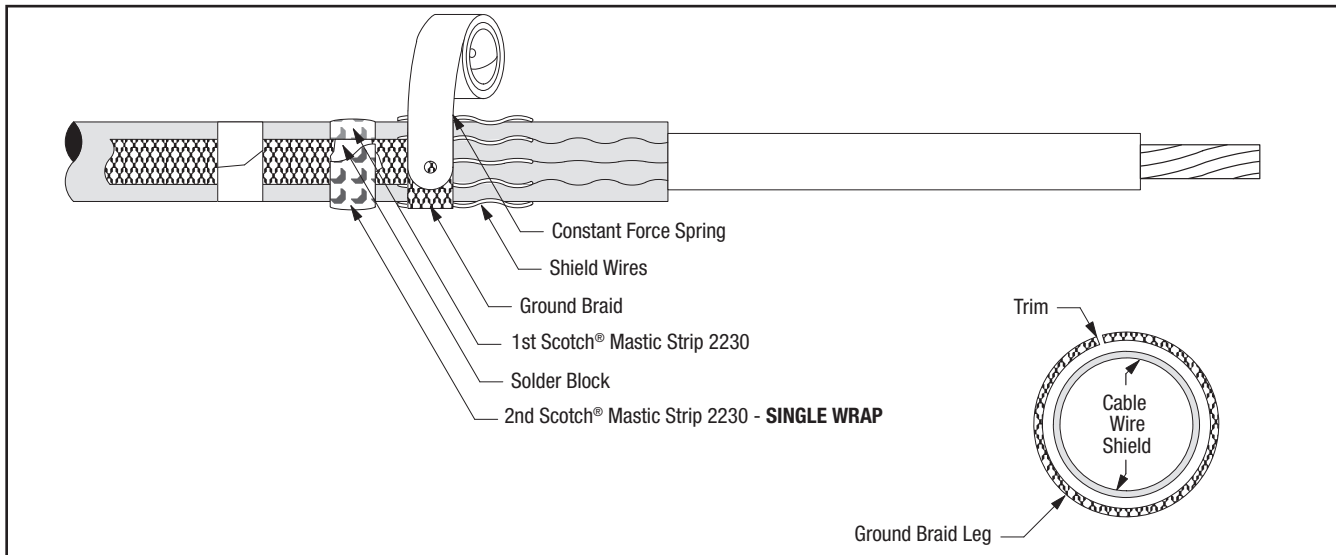

Figure 21
13.3 Wrap ground braid around cable shield wires one complete wrap, trim excess at approximately a 45 degree angle, and line up with the pre-bent 45 degree angle already on the ground braid, to prevent overlap. Secure in place with constant force spring. Wrap spring in same direction as ground braid (Figure 21). Cinch (tighten) the spring after wrapping the final winding.
13.4 Select second Scotch® Mastic Strip 2230 from kit and remove white release liners. Apply a second **SINGLE WRAP** of mastic over solder block on ground braid and previously applied mastic (Figure 21). Cut off excess.